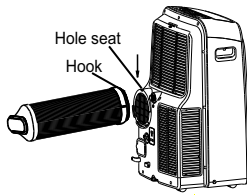

Fig.17
2. Insert the hook of the Exhaust hose into the hole seat of the air outlet and slide down the Exhaust hose along the arrow direction (See Fig.17) for installation.